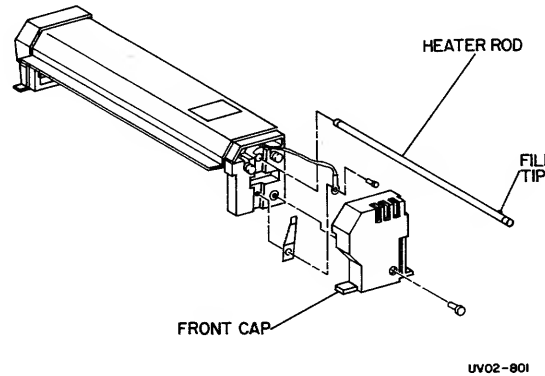

Figure 3-17. Heater Rod Removal
3. REMOVE FRONTEND CAP (Figure 3-17).